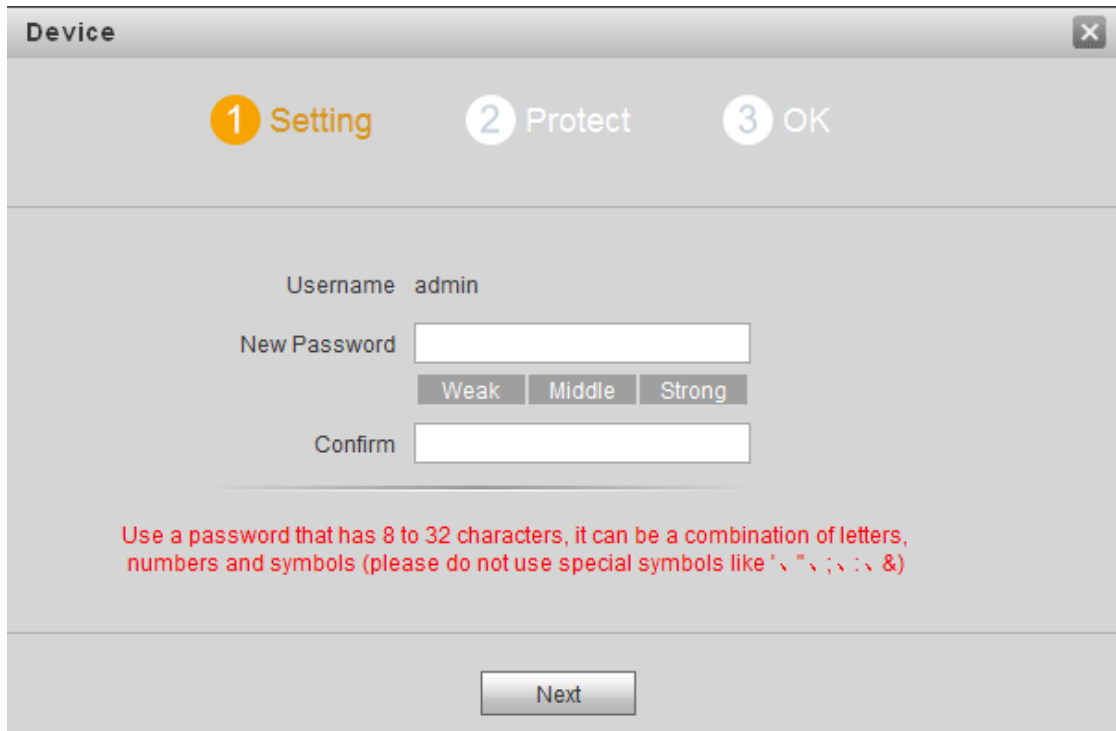

Figure 2-7
Step 1 Power on the device, and enter default IP address of VTO at the address bar of PC browser. The system displays “Setting” interface, as shown in Figure 2-7.